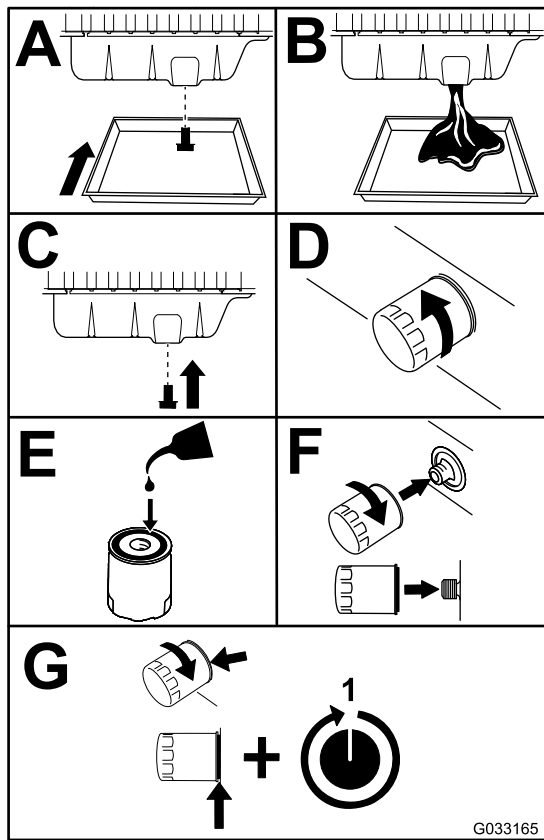

Figure 53
3. Replace the engine oil and filter (Figure 53).